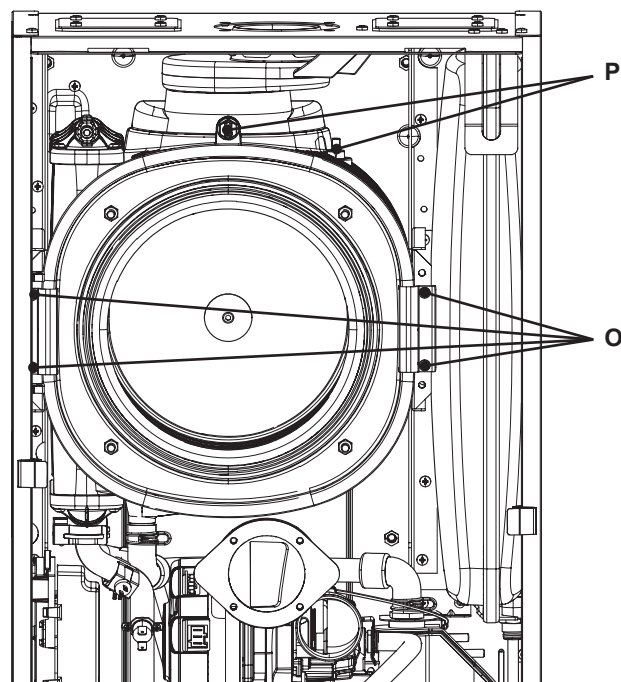

Figure 5.3
- 11 Unscrew the screws "O" and remove the clamps (Figure 5.3).
- 12 Disconnect the two connectors "P" by pressing the plastic hook placed on the side of the connector (Figure 5.3).